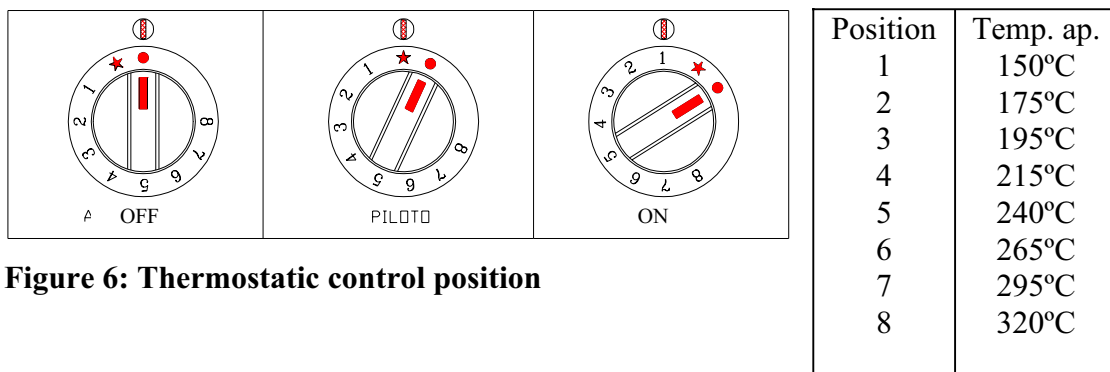

Figure 6: Thermostatic control position
- e) To turn back to PILOTT position(\*) (figure 6)turn the thermostatic control to the mentioned position. If the control is placed at OFF (?), the pilot will turn off too.